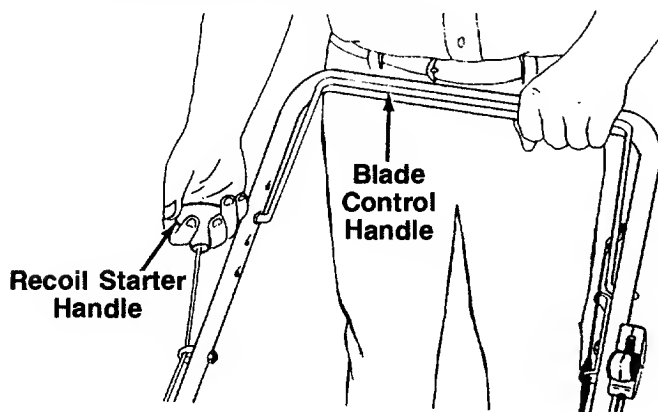

FIGURE 12.
5. Standing behind the unit, depress the blade control handle and hold it against the upper handle as shown. See figure 12.